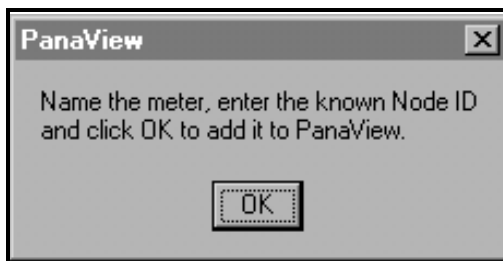

Figure 39: Confirmation Dialog Box
8. At the dialog box shown in Figure 39 on page 51, click on the [OK] option button to add the meter and configure it. The dialog box shown in Figure 40 appears.